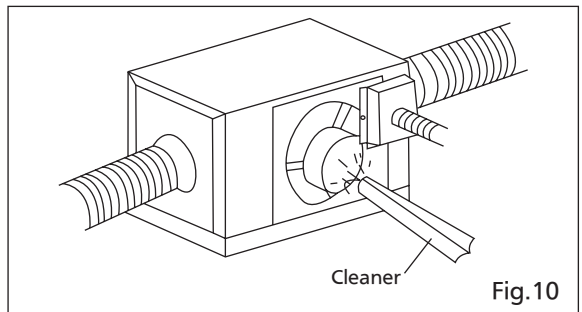

Fig.10
3. Remove dust and dirt inside the fan's body using a vacuum cleaner. (Fig.10)